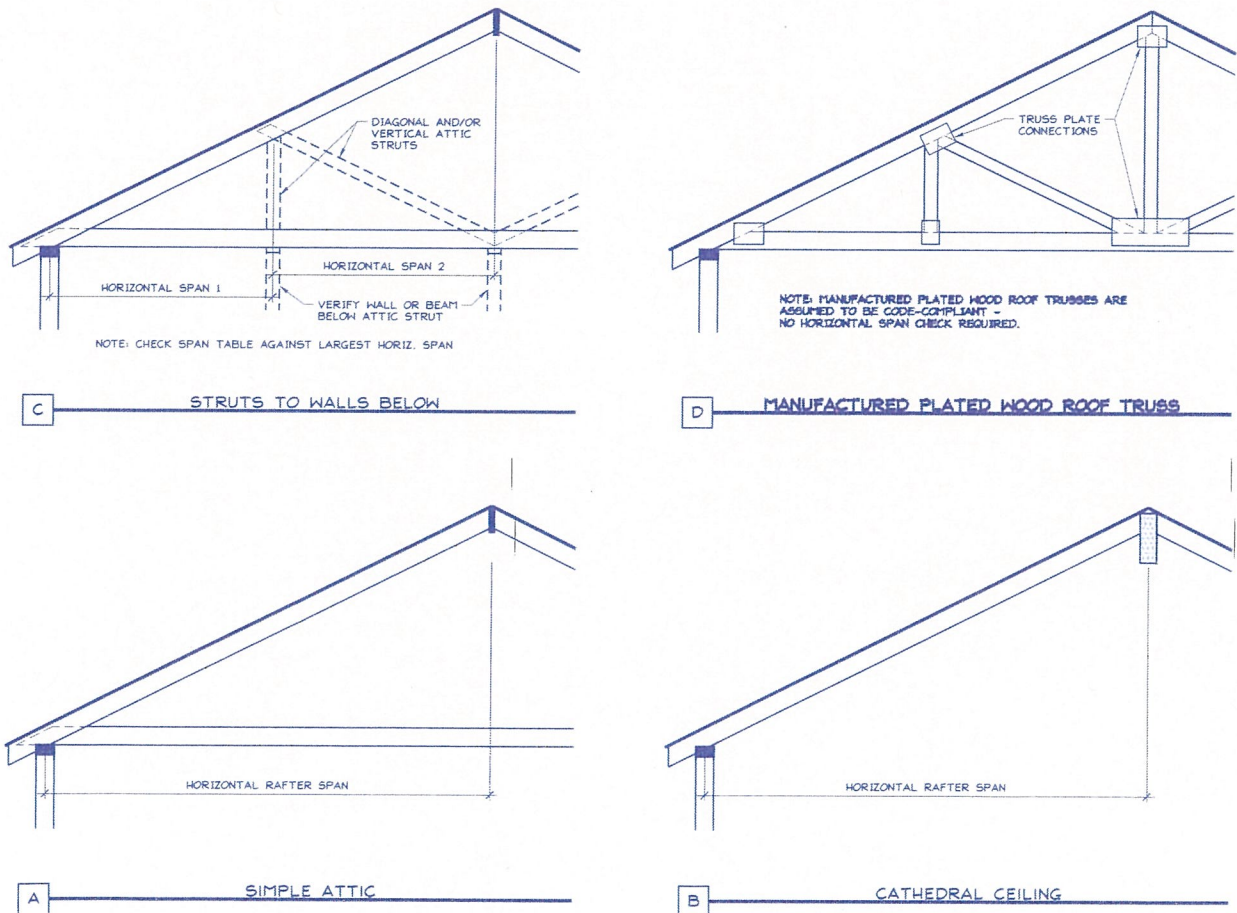

Figure 4. Definition of Rafter Horizontal Span.
- 5) Measured rafter horizontal span (see Figure 4): _____' - _____"ft-in
1. See Figure 4 for definition of roof rafter maximum horizontal span.
(Attach Figure 4 ONLY if the Optional Additional Rafter Span Check is added to the list of Structural Criteria.)